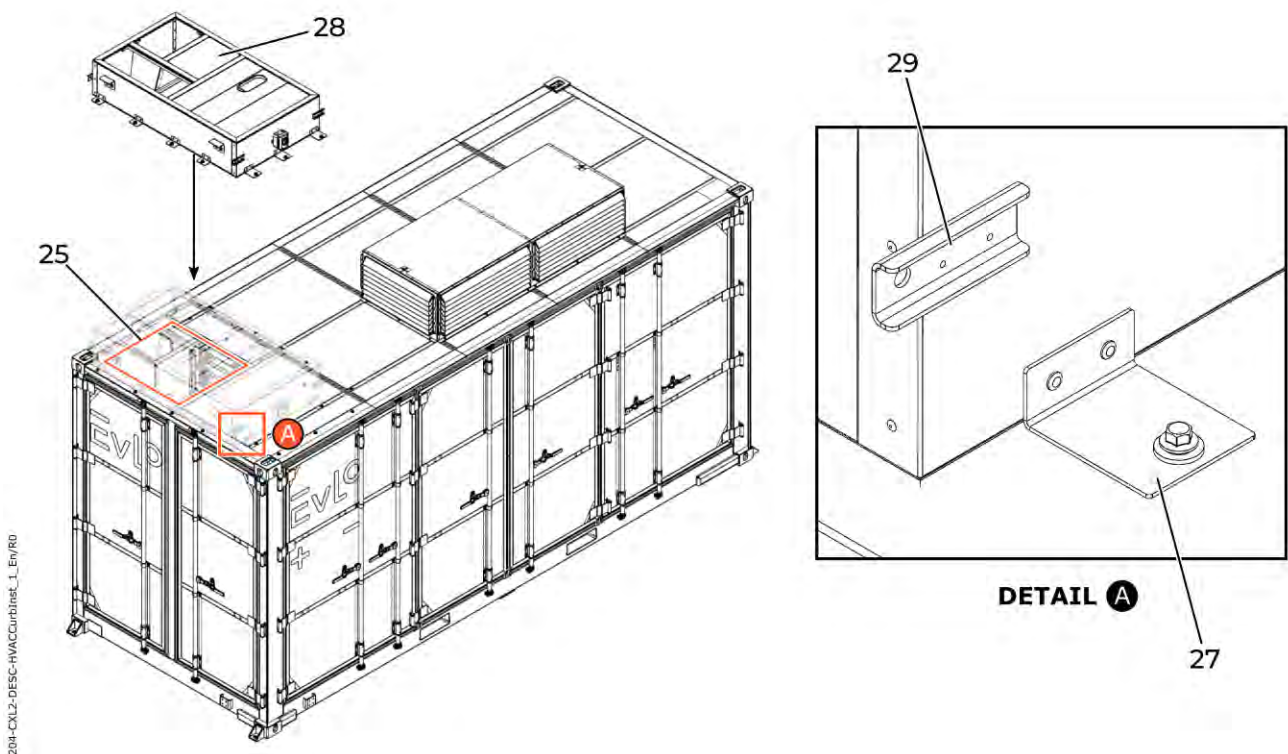

Figure 36 – HVAC curb Installation
101. Tighten the angle bracket (27) hardware and apply a torque mark (see **FIGURE 36**).